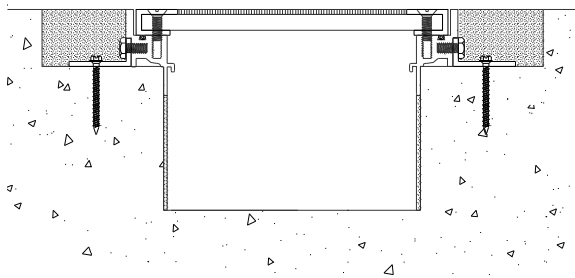

Figure 9
STEP 14. Install the tile into the cover plate recess at the time of installation of the finished floor (see Figure 9). Install the tile in accordance with the tile and adhesive manufacturers' instructions.